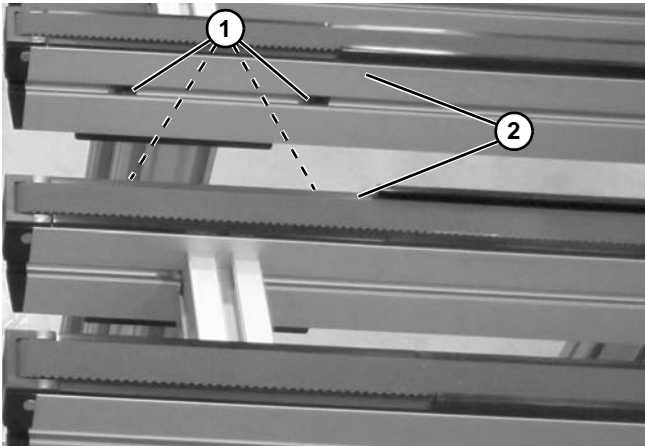

**Figure 101**
9. Attach corner motor module (**Figure 101, item 1**) to the inside of the outer conveyor rail (**Figure 101, item 2**) with two socket head screws (**Figure 101, item 3**).